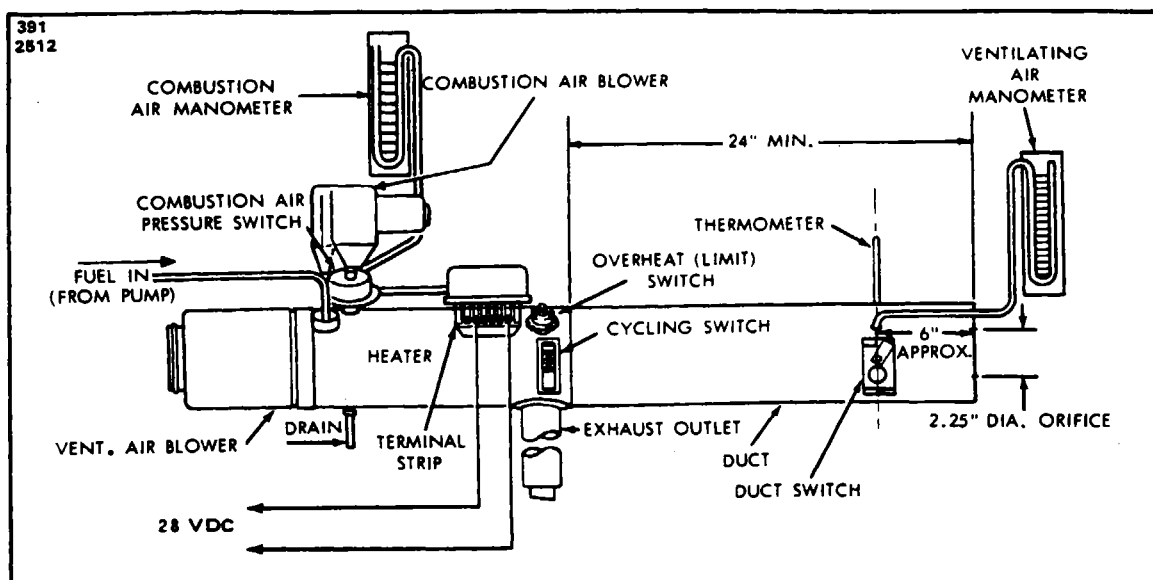

Figure 13-49. Suggested Setup for Heater Operation Test
13-179. EQUIPMENT REQUIRED. (Refer to Figure 13-49.)
- f. A piece of duct to be attached to the downstream end of the heater. It should have a minimum length of 24 inches and the same diameter as the heater being tested. A 2.25 inch diameter orifice should be centrally located at the outlet end. An aperture should be provided for the thermometer and duct switch and a static tap should be attached as shown in Figure 13-49.
13-180. OPERATIONAL TEST. (Refer to Figures 13-49 and 13-50.)
- a. Connect the heater to the test setup as shown in Figure 13-49. Make sure the combustion air blower is mounted securely and that the heater is clamped to its supporting stand.
- b. Insert the duct switch in the sheet metal extension tube at the location shown in Figure 13-49.